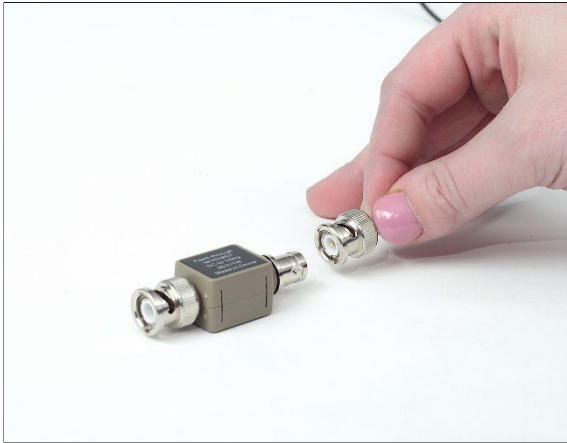

Figure 5. The PICOTA51 50 ohm terminator connects to the Tektronix® CT1 Current Probe
4. Connect the current probe coming from the Capacitive Arm to the male end of the PICOTA51 50-ohm terminator (Figure 5).